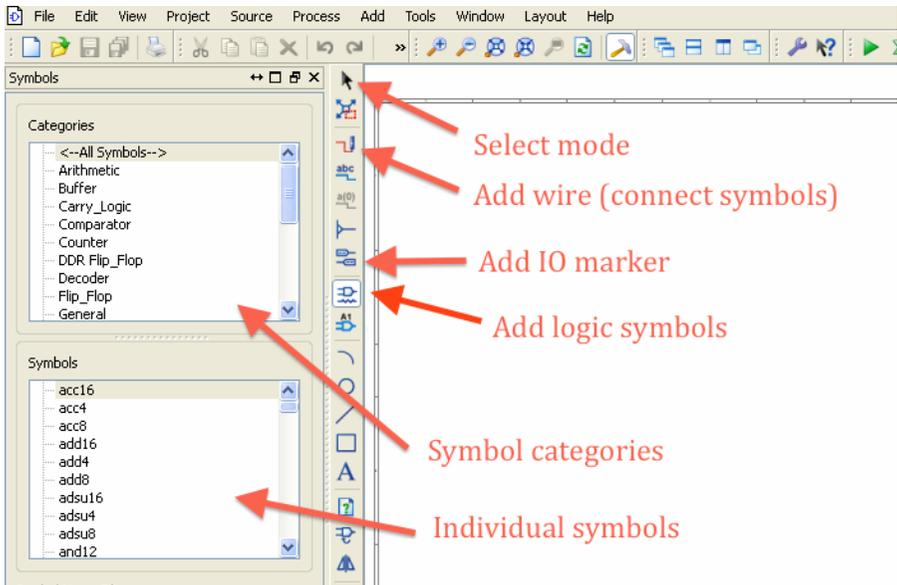

Figure 3-6 *The Schematic Editor.*
you can draw the schematic. This is shown in Figure 3-6 with the parts that you are going to need to use labeled.
- Add logic symbols. This is the mode selected in Figure 3-6. The left-hand panel then divides into a top half that shows categories of circuit symbols and a bottom half that has a list of the component symbols in that category.
Put the screen into the Add Logic Symbols mode by clicking on the “Add Symbols” icon (see Figure 3-6). You are going to need to add two two-input AND gates, a two-input OR gate, and two NOT gates (inverters).